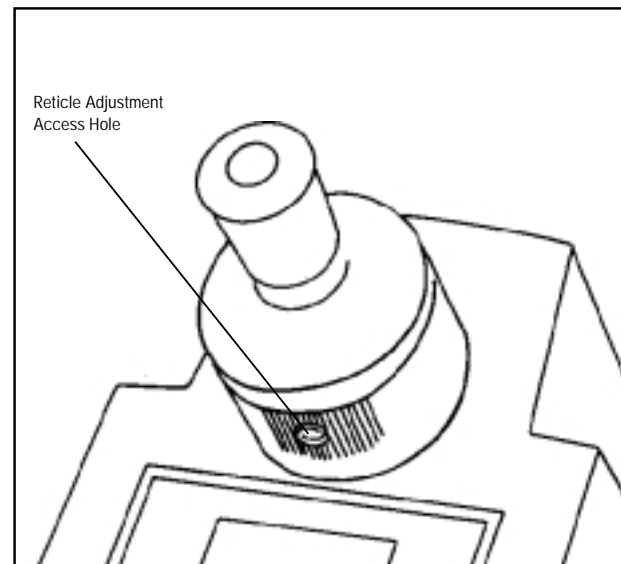

Figure 2
5. Insert a 1/16" Allen wrench into the reticle adjustment access hole (Figure 2) located in the dispersion correction wheel. Turn the wrench to bring the crosshair into proper position on the shadow line.